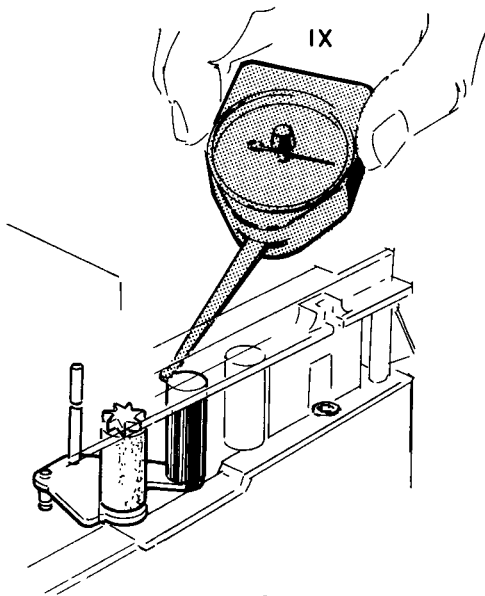

Fig. 6.26
- Fig 6.26 1. Check that the torque exerted by the reversing buffer arm is 180 ± 20 gf when the guide rollers are all aligned.